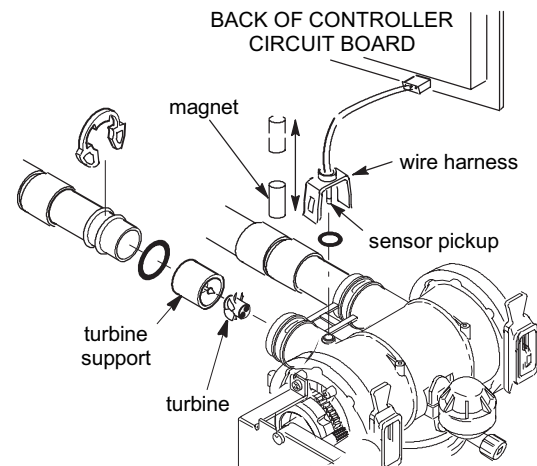

FIG. 139
6. If the display reading does not change with the faucet open, pull the wire harness from the valve outlet port (See Figure 139).